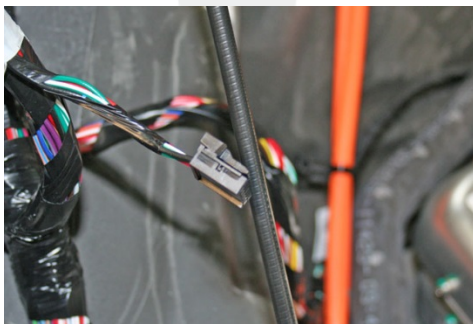

Figure 1
- If there is a 6-pin connector secured to the harness with white tape (Figure 1), continue to the “Retrofit Module Only” section.